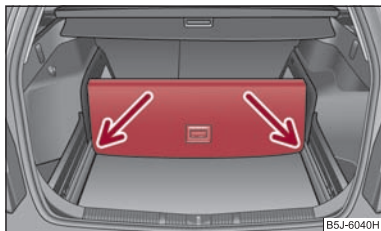

Fig. 64 Divide the luggage compartment
- Lift up the part with the holder and secure it by sliding it into the grooves ⇒ fig. 64. ■